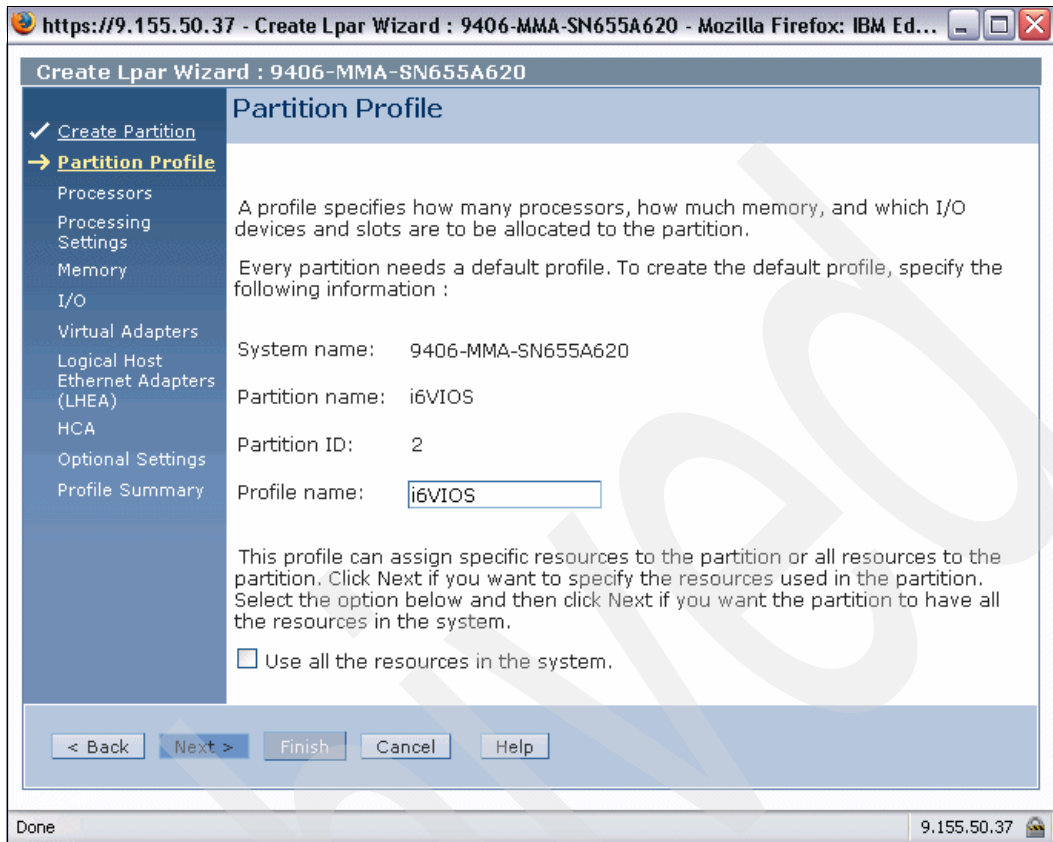

Figure 6-5 Create LPAR Partition Profile dialog
3. We enter a profile name and click **Next** to proceed, as shown in Figure 6-5.